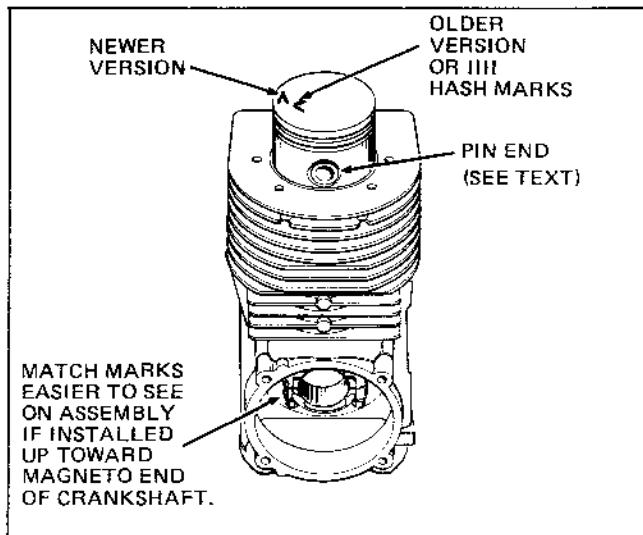

Figure 4-8
- (2) Figure 4-8 shows correct installation of piston pin for newer version piston. For older piston version the piston pin may or may not be installed as shown in Figure 4-8.
Install piston in cylinder bore as shown in Figure 4-8.